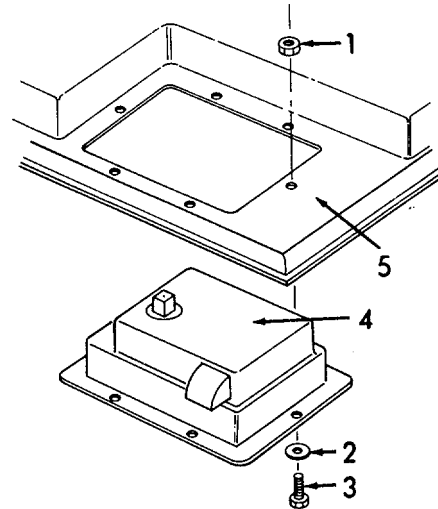

Figure 6-8. Latch Assembly, Replacement.
(3) Replacement of latches (Refer to Figure 6-8) as follows:
- (a) Remove six nuts (1), six washers (2), and screws (3).
- (b) Remove latch assembly (4) and scrape off old sealing compound.
- (c) Apply sealing compound (Appendix E, item 8) to the flange of the new latch (4).
- (d) Install new latch assembly (4) to door (5).
- (e) Install six screws (3), six washers (2), and six nuts (1).